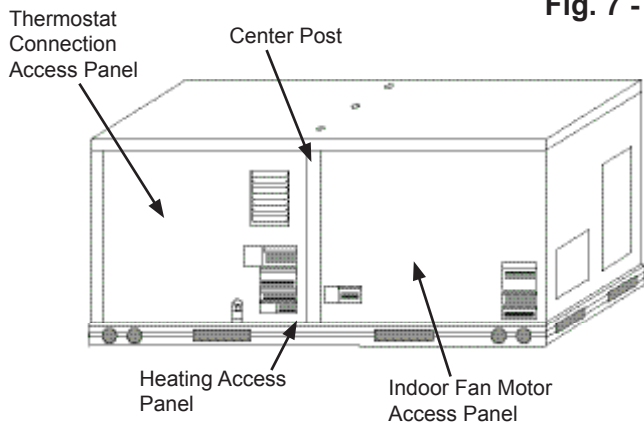

Fig. 8 - Typical Indoor Fan Motor Access Panel Locations
12. Remove the indoor fan motor access panel. (See Fig. 8.)